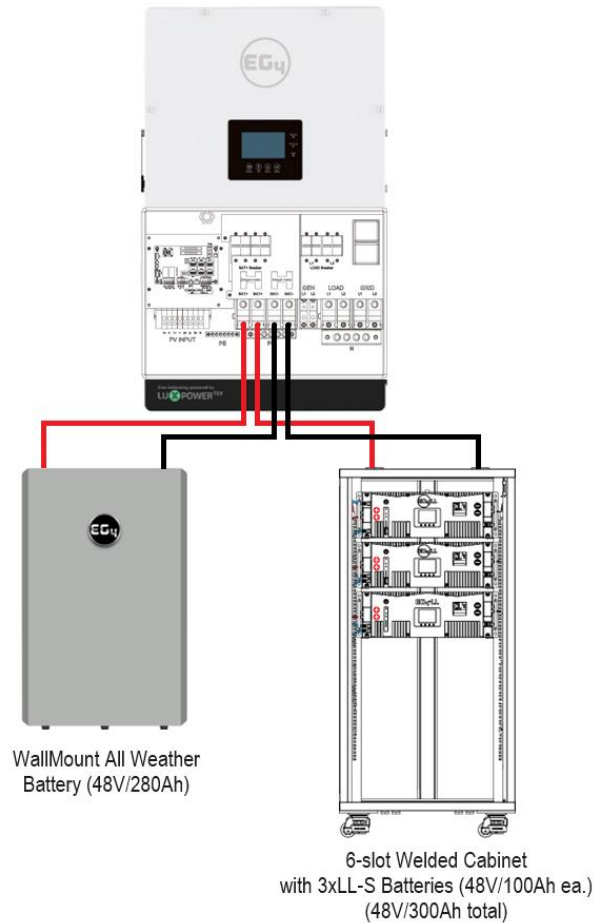

Figure 1 – Battery Balancing
Battery imbalances can impact the performance and longevity of your energy storage. To navigate this challenge effectively, it is crucial to comprehend the distinct capacities of the EG4 WallMount Battery (280Ah) and the older models (100Ah each). The goal is to create a harmonious configuration (as shown in figure 1) that optimizes the utilization of each battery, mitigating imbalances. Towards this goal, each battery bank (made up of one or many individual batteries) connected to an inverter must have similar Ampere-hour capacities.
- a. Connect the battery bank made up of 3 rack mount batteries (300Ah) and the battery bank made up of 1 WallMount battery to the EG4 18kPV hybrid inverter via the battery ports as shown in Figure 1 above. The inverter will then allow for efficient management of the combined 300Ah bank alongside the 280Ah WallMount. When using two WallMount batteries in one bank (2x280Ah=560Ah), the second bank would need to be made up of six rack mount batteries (6x100Ah=600Ah) to maintain charge/discharge balance.